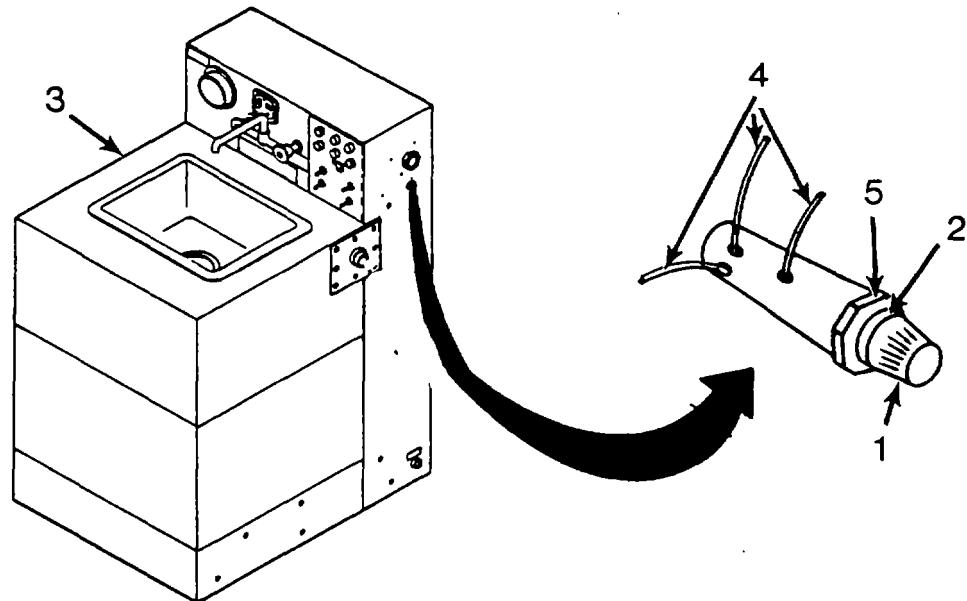

Figure 4-23. Replace Fuse Holder
g. Repair by Replacing Fuse Holder. (Figure 4-23.)
(1) Remove fuse (1) from fuse holder (2) by rotating counterclockwise.